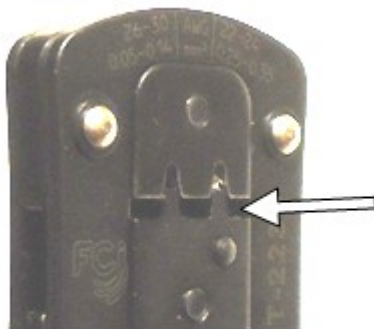
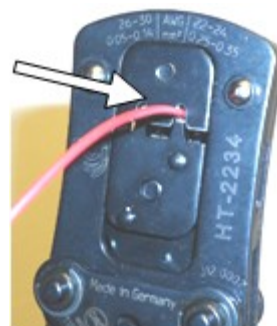

Figure 11
Figure 12
1. Close the hand tool till you observe the first ‘click’ of the ratchet, as indicated in **Figure 11** above. Using the correct wire gauge for the selected tooling cavity, insert the stripped wire into the slot of the appropriate wire stop until the insulation makes contact with the wire stop, as shown in **Figure 12**.